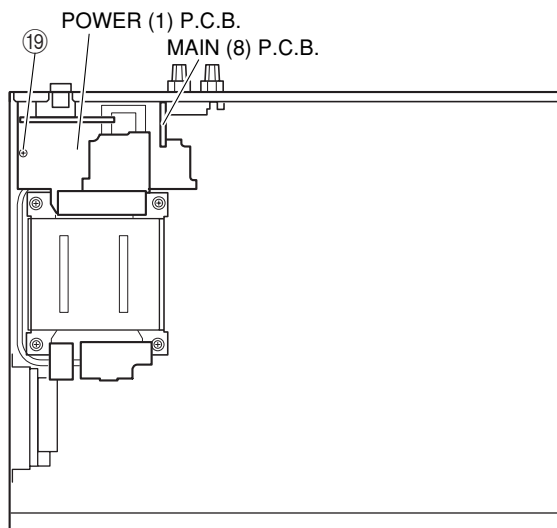

Fig. 7
- b. Remove 1 screw (⑬) and 4 screws (⑭). (Fig. 7)